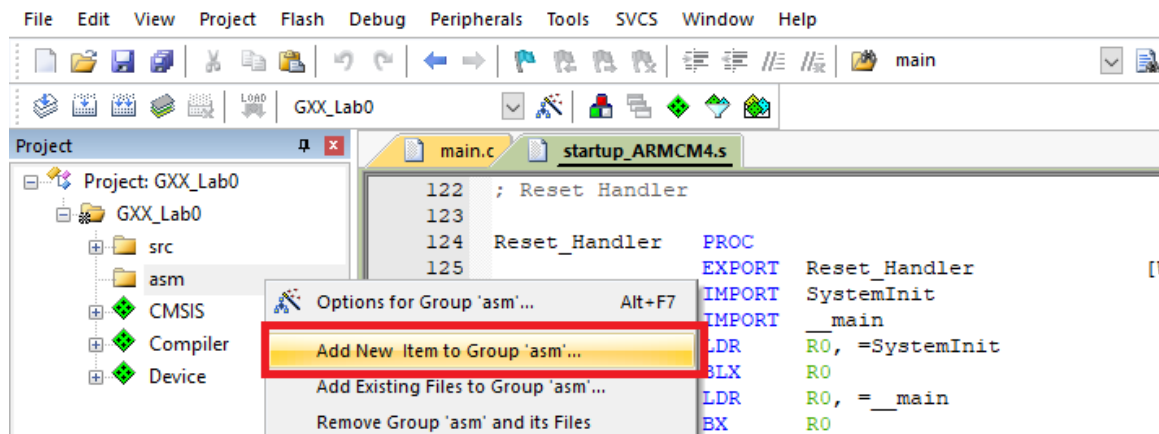
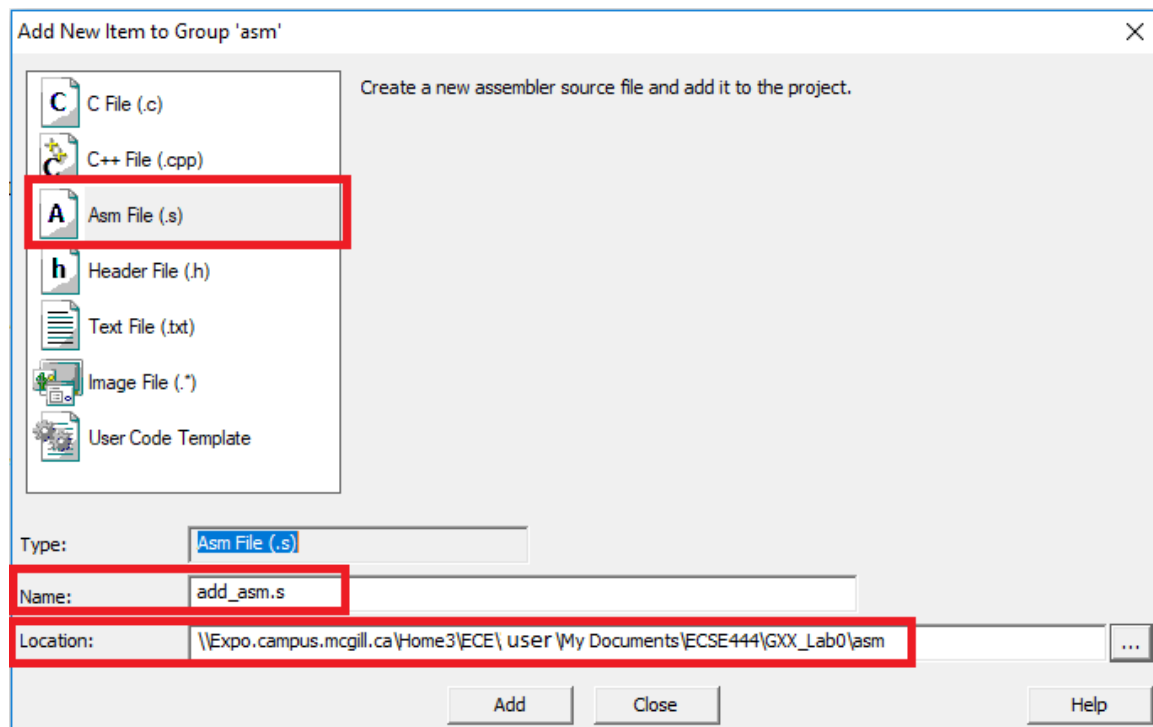
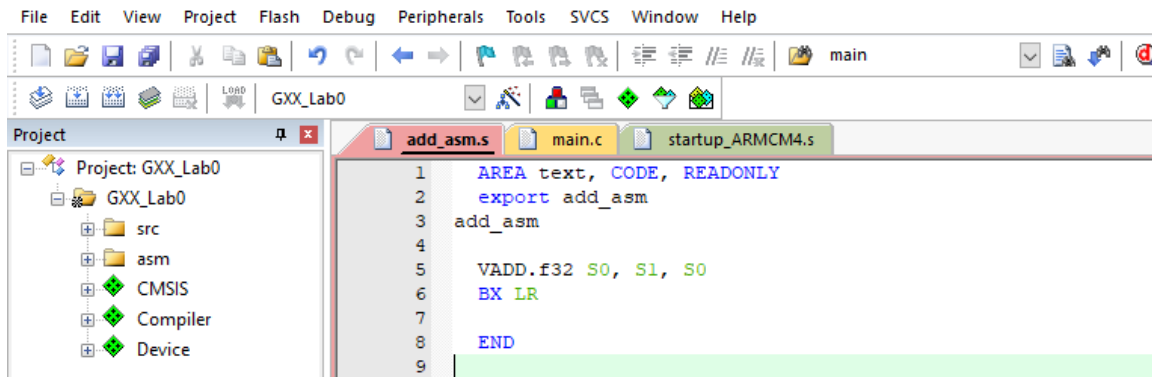

Figure 19: Adding a file to the *asm* group.
Figure 20: Adding the **add.asm.s** file.
Figure 21: Assembly code for floating point addition.
1. Create a new file **add.asm.s** in the *asm* group as shown in Figure 19 and Figure 20. Write the code shown in Figure 21 and save the file.